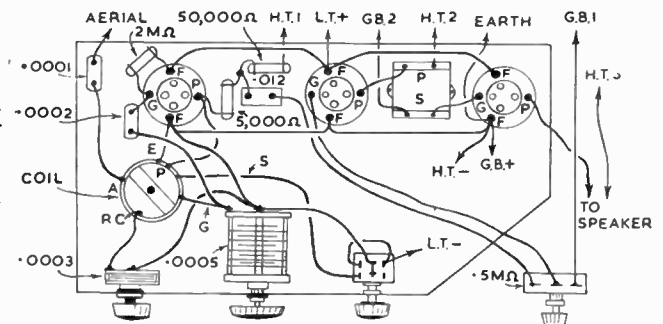
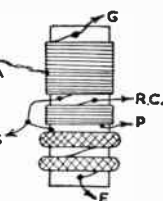

Fig. 2—A complete wiring plan
Fig. 3—The tuning coil windings
A complete wiring plan is given in Fig. 2. All the parts should be fixed securely and all connections should be well made with insulated wire. The constructor who has not previously made a receiver and wishes for proper reception from the moment of switching on should follow the diagram carefully and check afterwards to assure all leads are as indicated.
Constructors wishing to wind their own coils should follow Fig. 3. The tube is 1½ ins. in diameter. The ends of the windings are lettered to agree with Fig. 2, and are as follows: (G) to grid condenser; (A) to aerial condenser; (S) to switch; (E) to earth (H.T. negative); (P) to detector plate; (RC) to reaction condenser. All turns must be wound in the same direction.